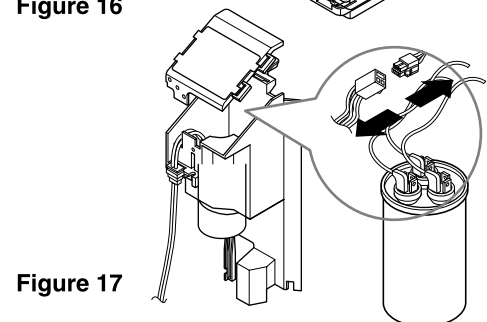

Figure 17
6. Disconnect one housing terminal and 3 wires for the fan motor and compressor. (See Figure 17)